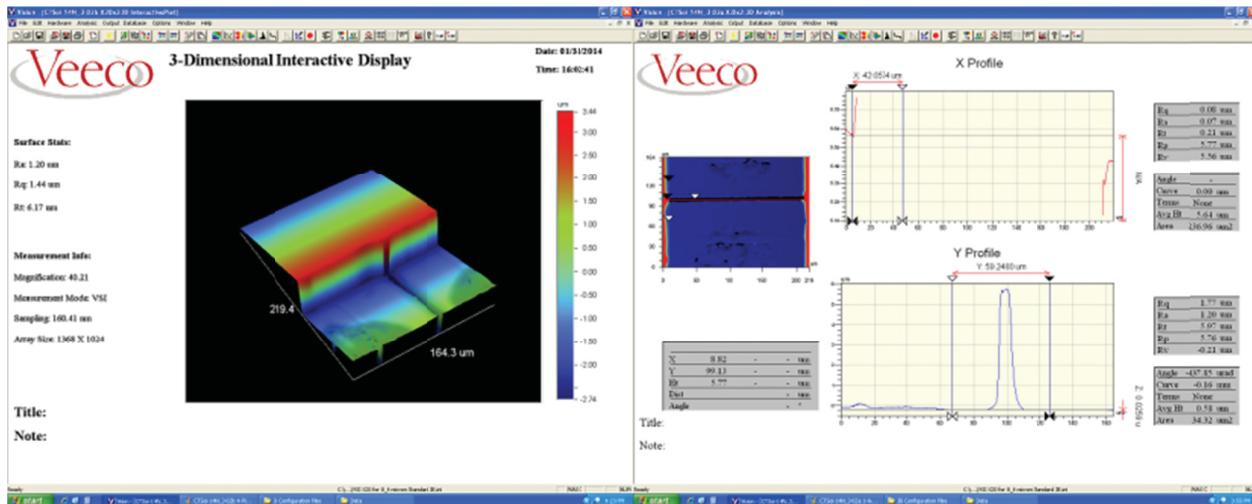

Figure 2 : Veeco Optical profiler measurement of CNT layer thickness for sample CTSoi-14N Bridge#3
- Veeco optical profiler appears unsuitable for this kind of measurements due to the high difference of reflectivity between the CNT layer and the surrounding layers (TiN electrodes and Si Handle). The low reflectivity of the CNT layer makes the bridge appear as a hole in the whole structure (Figure 2).